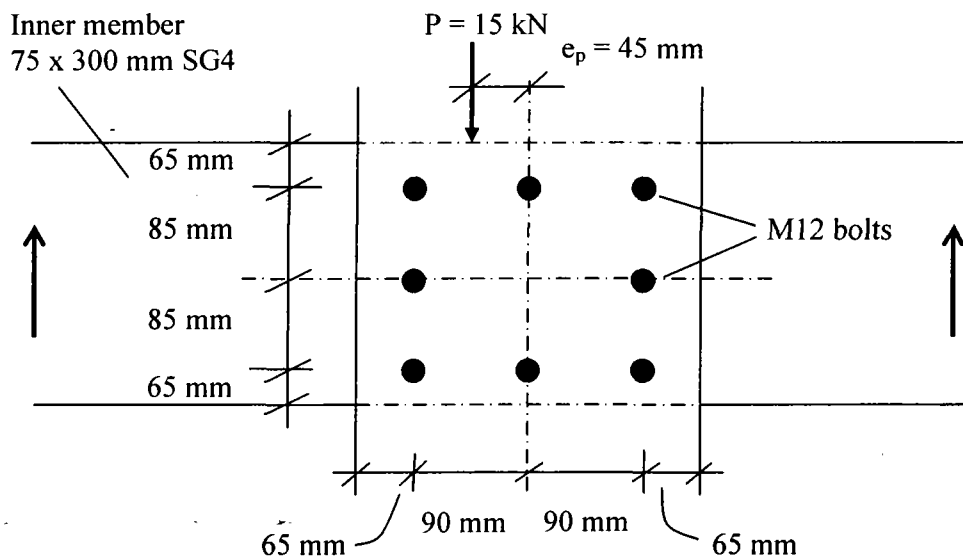

Figure 6 / Rajah 6
6. (a) Figure 6 shows the bolted connection subjected to a long-term eccentric point load of 15kN. The joint consists of two 5 mm thick of steel side. The inner member is SG 4 with the size of 75 x 300 mm joined together by eight M12 bolts. Check the adequacy of the connection.